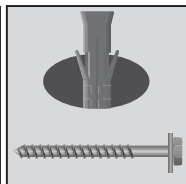

Figure 10.5
7. Place the safe back into position lined up over the hole and secure in place using the provided mounting bolt (Figure 10.5).